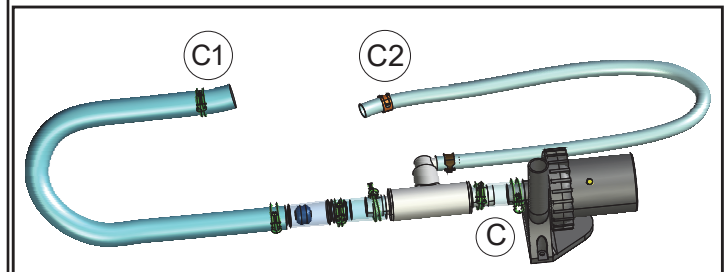

Figure 13.1
- Locate connection (C1) and connect it to the barb connection (Figure 13.1 and 13.2). (Cut to length if hose too long).
- Locate connection (C2) and connect it to the drain nipple(L) in front of jet pump (Figure 13.1 and 13.3). (Cut to length if hose is too long).